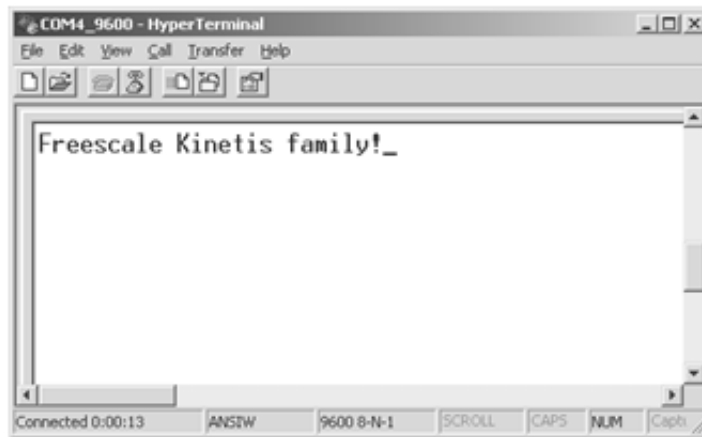

Figure 9-14. HyperTerminal window
2. Then, open HyperTerminal pointing to the COMx device (in this case, COM4) with 8-bit size, 1 stop bit, no flow control, 9600 baud rate, and begin typing in the terminal. See Figure 9-14. The software running in the MCU returns the same characters.